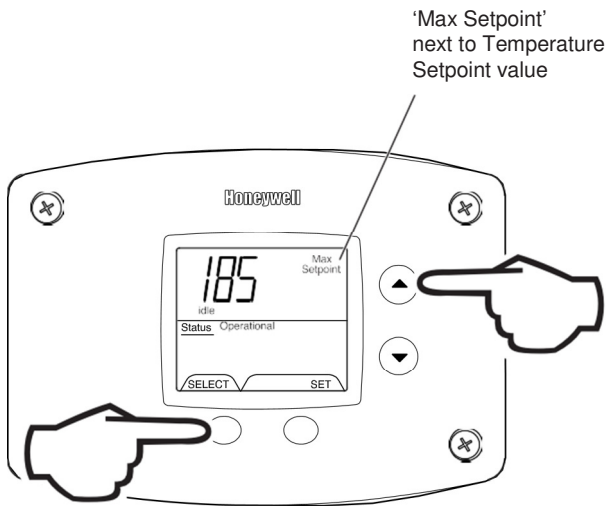

Fig. 27
1. Press 'Select' and 'Temperature Up' buttons together and hold for 3 seconds until 'Max Setpoint' is shown in the display (Fig. 27).